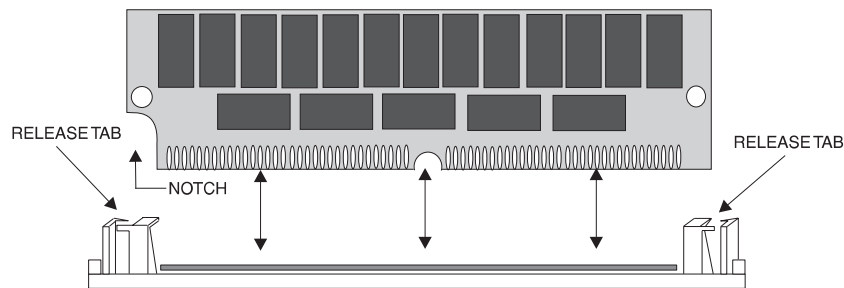

Figure 3-1 Installing a 72-Pin SIMM
The following table (Figure 3-1) lists the most common memory configurations supported.
1. Hold the SIMM so that the notched edge is aligned with the notch on the SIMM socket (Figure 3-1).